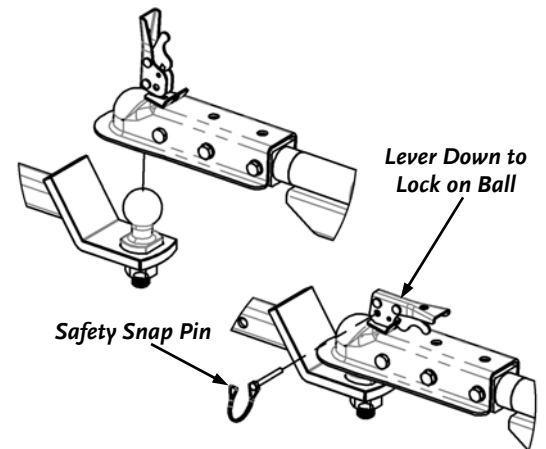

Figure 21
22. Attach the Trailer to your Tow Vehicle using a 2" Ball, making sure to properly latch the Coupler, and locking it with the supplied Safety Snap Pin (**Figure 21**).